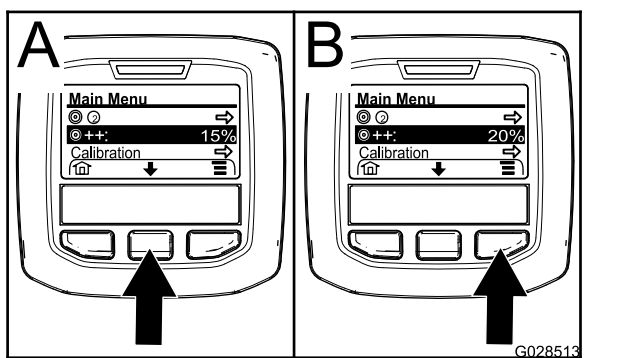

Figure 67
- If needed, press the center selection button to highlight the application rate boost (Figure 67).
**Note:** The icon for the application rate boost look 2 (+) signs to the right of a bull's-eye target (Figure 67).
- Press the right selection button (Figure 67) to increase the boost percentage in 5% increments (20% maximum).